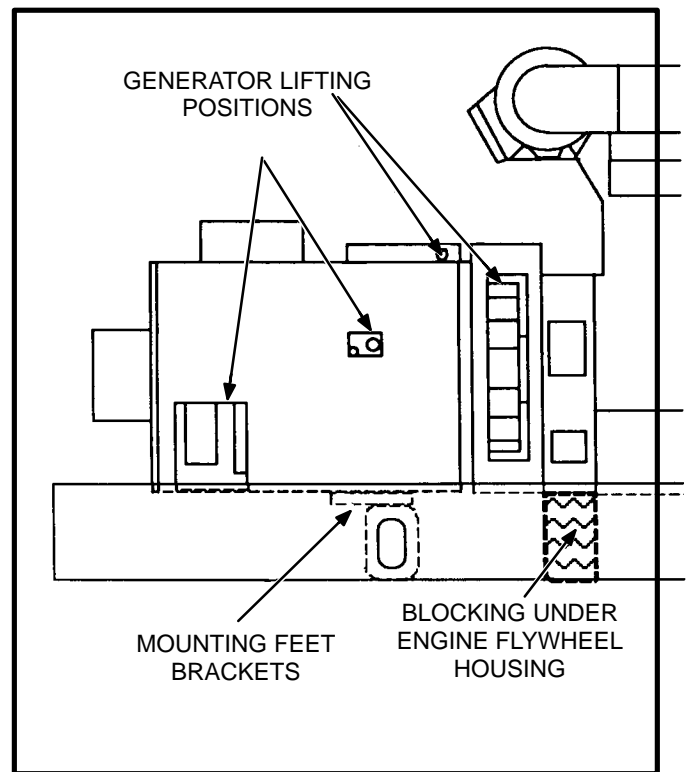

FIGURE 6-12. GENERATOR LIFTING POSITIONS
31. If the engine does not have chassis mounts at generator end, block the rear of the engine in place by supporting the flywheel housing. A length of steel channel and wooden blocking is required to support the rear of the engine. Place the channel and blocking under the flywheel housing. Lower the generator until most of the set weight is supported by the blocking (see Figure 6-12).
4. Lift the generator slightly and remove any blocking from under the flywheel housing. Lower the generator (see Figure 6-12).